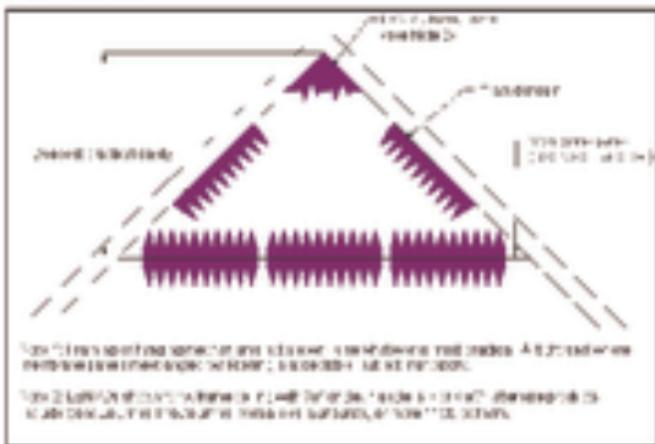

Figure 3.4 - Method for treating a "cathedral" or "A-frame" ceiling
Figure 3.4 shows an example of how we would suggest you to treat a cathedral ceiling for live rooms. This also would work in a control room or studio room you have put in, for example, an attic space because that's the only place your spouse would let you! In it, we show **4" Studiofoam™** on the two ceiling surfaces that come together to form the peak of the cathedral ceiling. Below that (the farther down, the more effective it is), a horizontal piece of material forms the face of the "trap." In this example, the face material is 1/4" pegboard and it is covered on both sides with 4" Studiofoam. Instead of using two (2) separate pieces of 4" Studiofoam leading up to the peak, a viable and perhaps even more effective alternative is to span the peak with a piece of Studiofoam, forming a small, triangular-shaped airspace behind it. One way to control sound in general and low frequency sound in particular is to force the sound waves to fight their way through multiple layers of different materials and dead air before they can strike the room boundary.